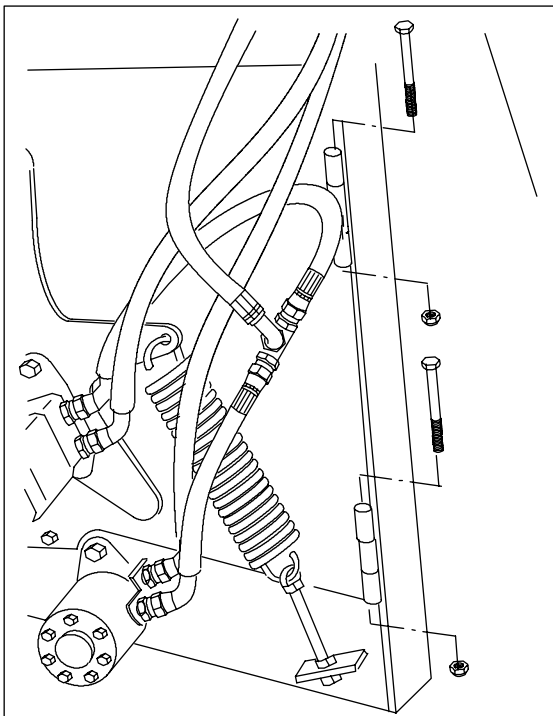

Fig. 6b. Installing the hinge bolts
4. Attach the feed chute to the feed chute extension with two M10x150 bolts and lock nuts. Fig. 6b.